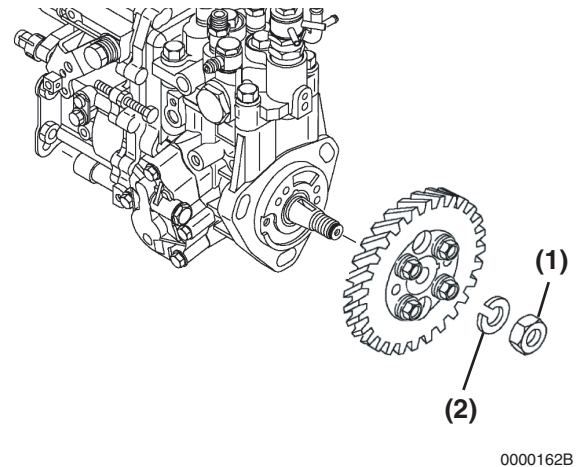

Figure 7-14
21. Once the fuel injection pump drive gear and hub assembly has “popped” loose from the tapered fuel injection pump drive shaft, carefully remove the drive gear nut (**Figure 7-14, (1)**) and lock washer (**Figure 7-14, (2)**).